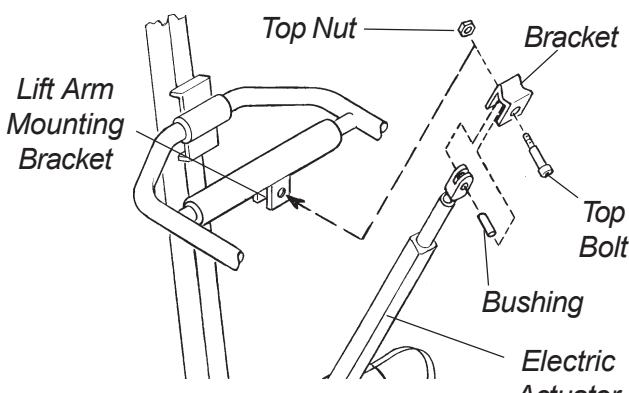

FIGURE 2 - ATTACHING ELECTRIC ACTUATOR TO MAST
## ATTACHING ELECTRIC ACTUATOR TO MAST (FIGURE 2)
- Position the electric actuator in the lift arm mounting bracket as shown in **FIGURE 2**.